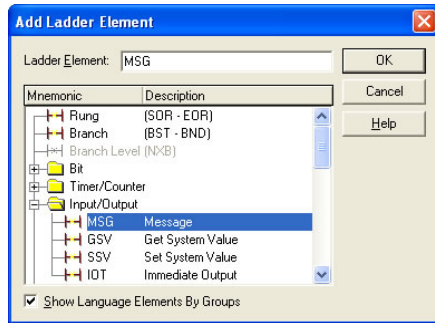

Figure 56: Adding a MSG Instruction
- d) Select the “MSG” instruction in the Input/Output folder. Refer to Figure 56.